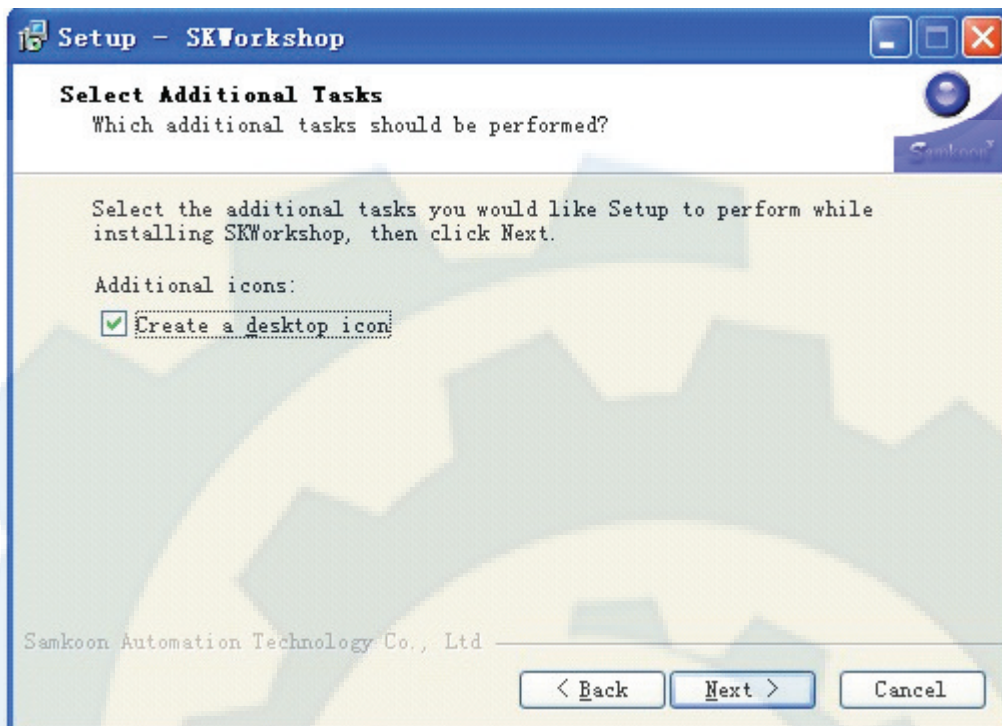

Figure 2-8: Choose whether to create a desktop shortcut
- Choose whether to create a desktop shortcut, and then click Next, as shown in Figure 2-8.